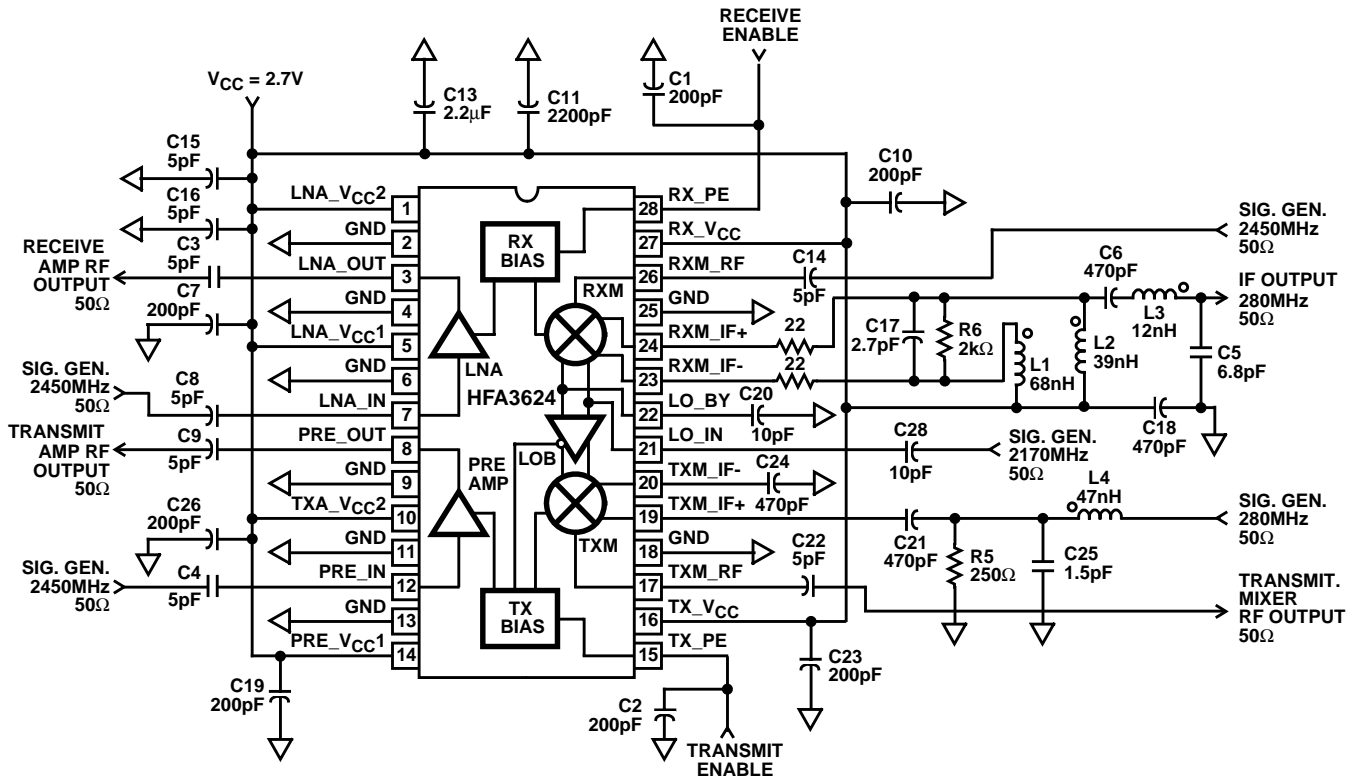

FIGURE 5. OPTIMIZED LAB EVALUATION CIRCUIT
- See Figure 5 Test Circuit for 50Ω IF matching network component values.
- Transmit mixer measured with Impedance Transform Network 250Ω at device to 50Ω at the source. Refer to Figure 5, pin 19.
- Implied limit, production measurement uses 50Ω termination at pin 19 (RSIF = 50Ω). Typical transmit conversion gain increase of 5.5dB with application circuit Figure 5 (RSIF = 250Ω).
- Enable/Disable Time Specifications are tested with the external component values shown in the Figure 5 Test Circuit, with an IF frequency of 280MHz. Specifically the AC coupling capacitors on the TXM\_IF+ and TXM\_IF- pins are biased up to operating voltage from a fixed internal current source at power up. Increasing these AC coupling capacitors above 1000pF will slow Enable Time proportionately.
NOTE: Transmit mixer measured with Impedance Transform Network 250Ω at device to 50Ω at the source. Refer to Figure 5, pin 19.